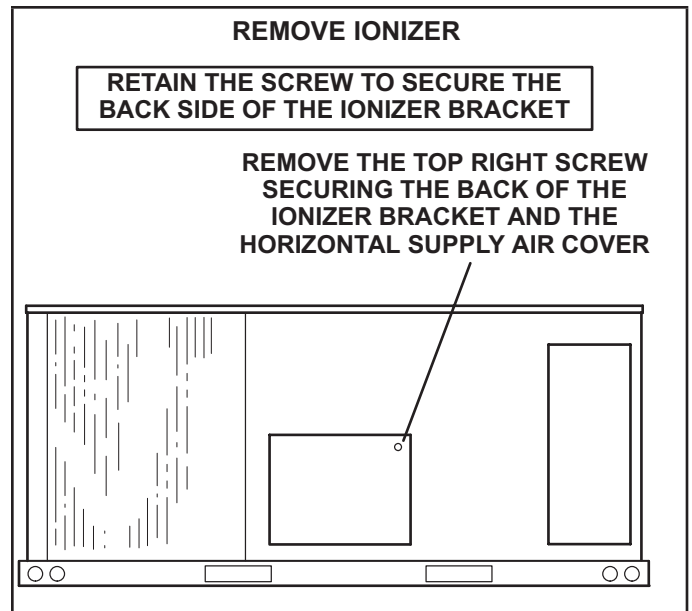

FIGURE 23
- 1 - On the back side of the unit, remove the screw securing the back of the ionizer bracket. See FIGURE 23. Retain the screw to secure the back side of the ionizer bracket.